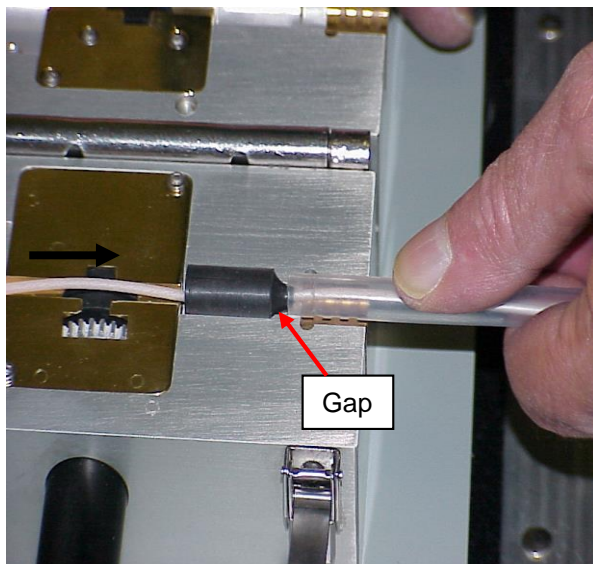

Figure 26
11.6 Verify fiber bundle is centered in lower Brass Plate groove and aligned with lower Fiber Bundle Drive Wheel. **See Fig. 26.**